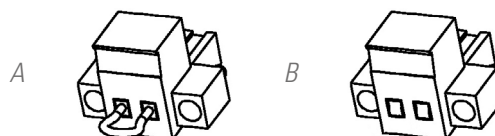

Fig. 11. Connector for external EPO.
- The device is dispatched from the factory with its EPO circuit set to closed (NC) by default. In other words, the UPS will cut the output power supply, emergency power off, when the circuit is opened:
- ☐ Either by removing the female connector from the socket where it is inserted. This connector has a cable connected as a jumper that closes the circuit (see Fig. 11-A).
- ☐ Or by pressing the button external to the device belonging to the user installed between the terminals of the connector (see Fig. 11-B). The connection on the button must be in the normally closed contact (NC), so it will open the circuit when activated.